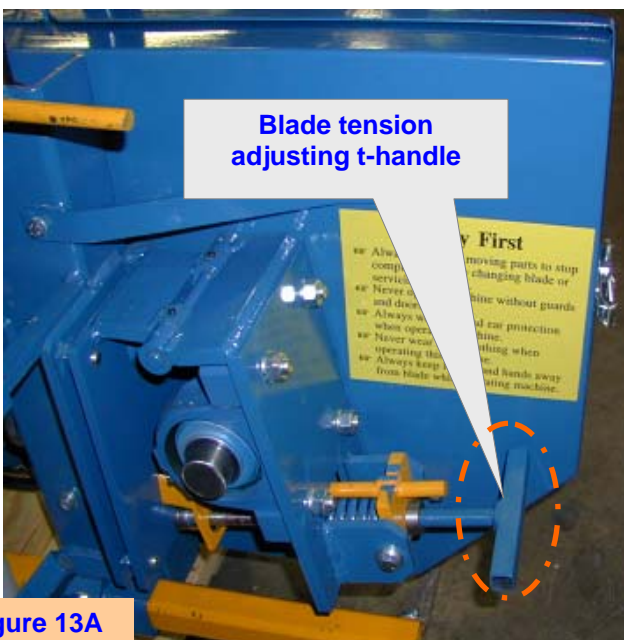

Figure 13A
- ❑ To tension the blade, turn the t-handled all-thread bolt clockwise until the factory set tension marks align (**Figure 13A, 13C**).